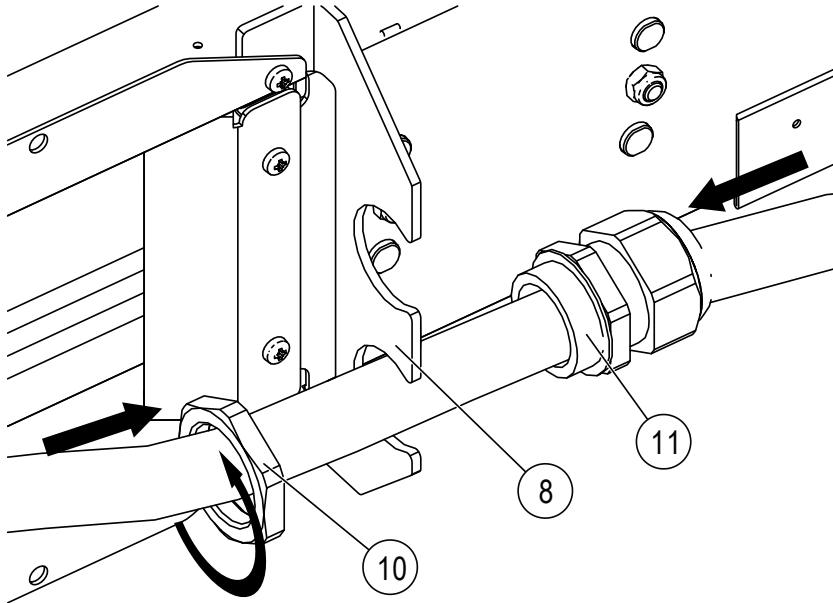

Fig. 52: Install strain relief
6. Fasten the connecting cables to the metal plates of the fastening frame (8) using the strain relief, consisting of the lock nut (10) and screw connection (11) (see Fig. 52).